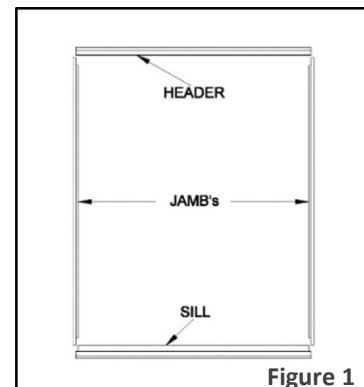

Figure 1
1.2 All main frame members are machined so that they may be assembled in only one way. Lay out the framing members as shown in the diagram (figure 1).